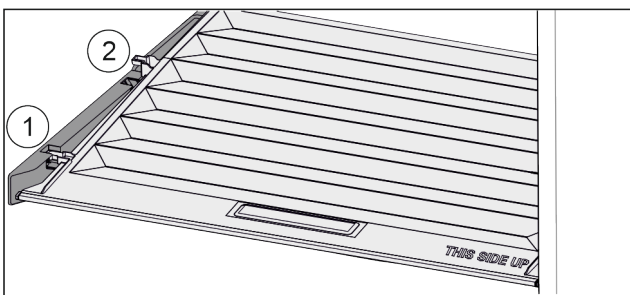

Fig. 101
- ▶ Pull the lid up at the front in the retaining parts to the opening *Fig. 101 (1)*.
- ▶ Lift from the back and pull it up and out *Fig. 101 (2)*.